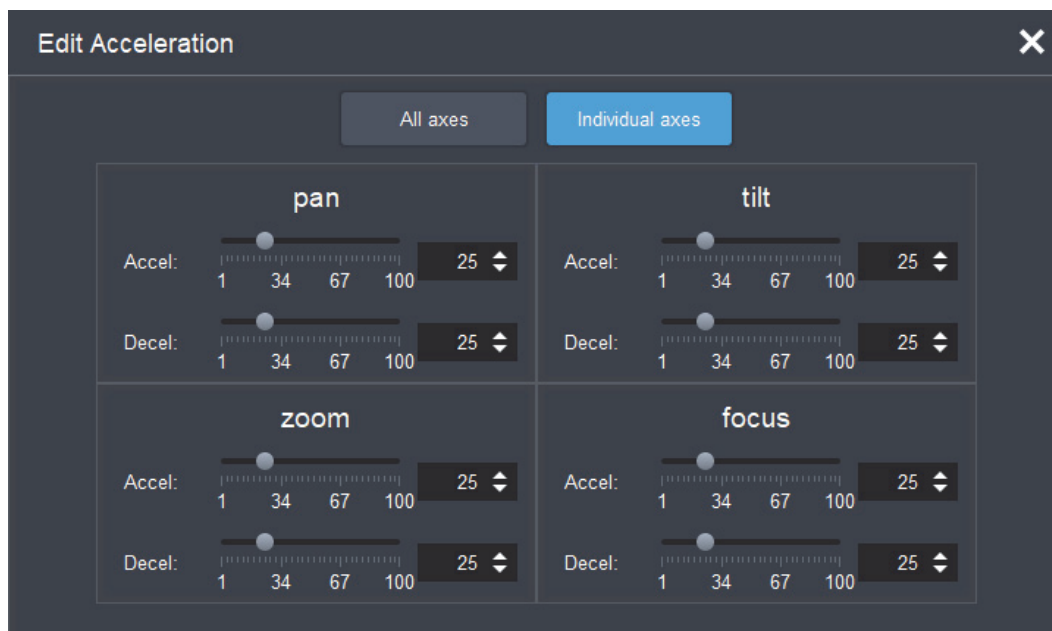

Figure 30 - Edit Acceleration dialog box (individual axes)
- e. If you want to customize the acceleration rate and/or deceleration rate for individual axes, tap the **Individual axes** button and then specify the rates for each axis as required. See Figure 30.